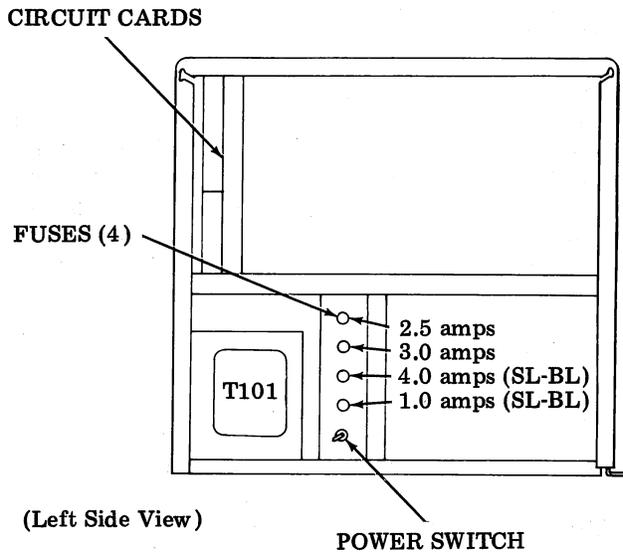

Figure 5 - Electrical Service Unit - Showing Location of Fuses
5.04 The three-position switch for control of primary power operates as follows: Normal (up position), Off (center position), and On (down position). Four fuses (Figure 5) are used to protect primary and secondary circuits. There are two convenience outlets for maintenance use (100 watts maximum).